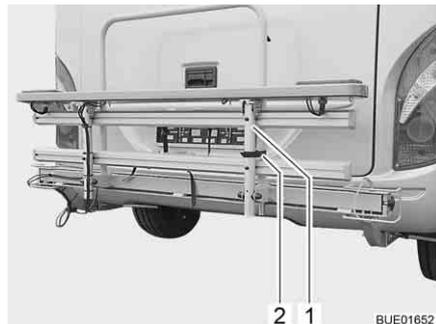

Fig. 1 Bike rack (folded up)
- Loosen the strap (Fig. 1,2) and fold the carrier (Fig. 1,1) down.